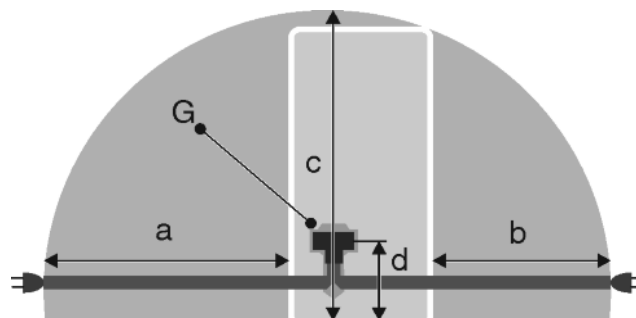

Fig. 27
- The socket is outside the back of the appliance area in the specified area *Fig. 27 (a, b, c)*.
- ▶ Insert the appliance plug *Fig. 27 (G)* into the back of the appliance. Ensure that it clicks into place.